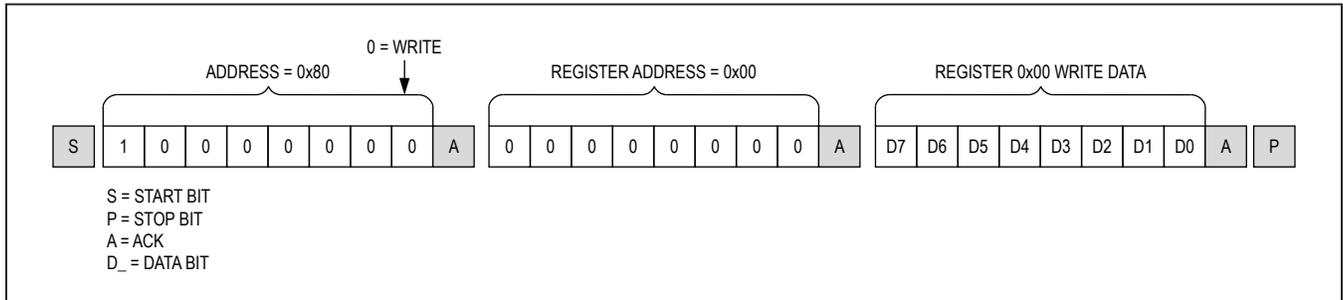
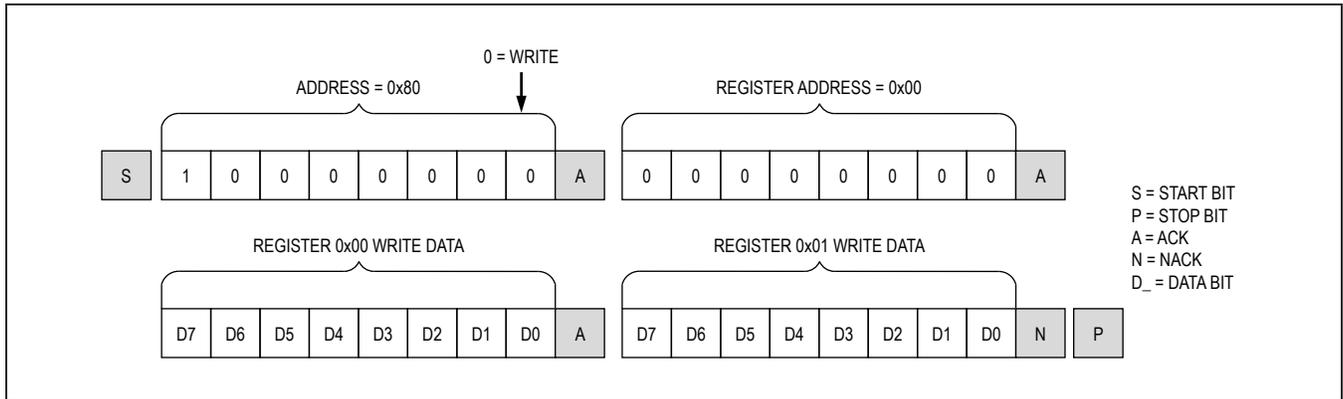

Figure 35. Format for I²C Write
Figure 36. Format for Write to Multiple Registers
Writes to the serializers comprise the transmission of the slave address with the R/W bit set to zero, followed by at least one byte of information. The first byte of information is the register address or command byte. The register address determines which register of the device is to be written by the next byte, if received. If a STOP (P) condition is detected after the register address is received, the device takes no further action beyond storing the register address (Figure 35). Any bytes received after the register address are data bytes. The first data byte goes into the register selected by the register address, and subsequent data bytes go into subsequent registers (Figure 36). If multiple data bytes are transmitted before a STOP condition, these bytes are stored in subsequent registers because the register addresses autoincrements.